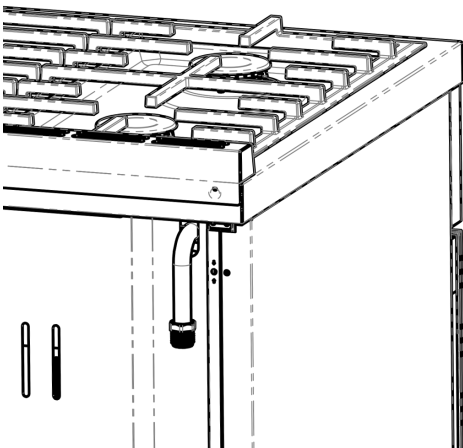

Fig. 2.2
1. If not already installed, mount the CNG hose connector on the end of the gas pipe of the appliance by correctly inserting the gasket (see fig. 2.2).
1. If not already installed, mount the butane/propane hose connector to the end of the gas line of the appliance by inserting the gasket seal (as shown in Fig. 2.2). **Important! The butane/propane pipe fitting consists of a methane gas fitting with a reduction for fixing the butane/propane gas in the final piece (interposing the correct gasket).**